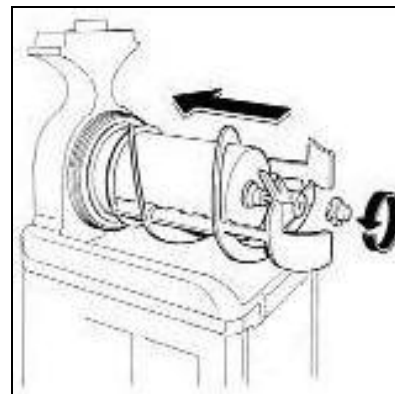

Fig. 22
- Block all these components into place by turning the knob in counter clockwise direction (fig.22).